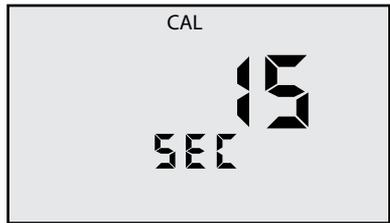

Figure 24
4. Press  to initiate. **CAL** will be displayed along with the “**15 SEC**” (see Figure 24).